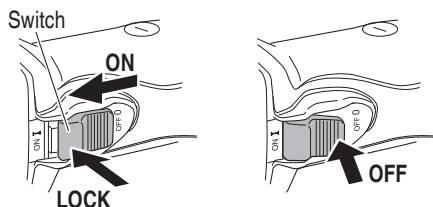

Fig. 9
2. Turn the grinder "ON" (Fig. 9)
Turn the grinder "OFF" (Fig. 9)